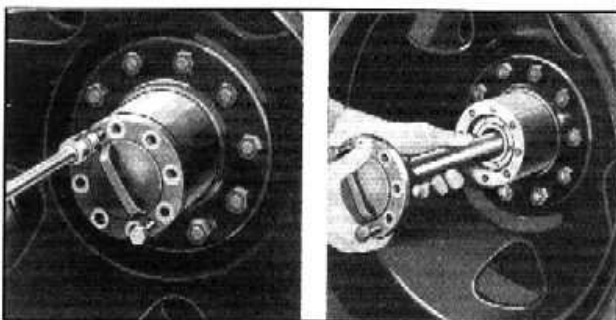

Fig. 15—Loosening and Removing Axle Shaft
3. Install two 7/16" - 14 cap screws in the threaded holes provided in the axle shaft flange. Turning these cap screws alternately, the axle shaft may easily be removed. Remove the axle shaft and aluminum gasket, Fig. 15.